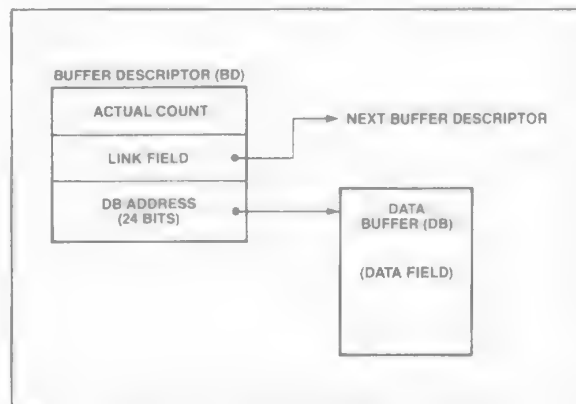

Figure 6. Transmit Data Buffer
The 82586 has a 22-bit memory address range in minimum mode and 24-bit memory address range in maximum mode. All memory structures, the System Control Block, commands in the Command Block List, Receive Descriptor List, and all buffer descriptors (see Figure 6), must reside within one 64K-byte memory segment. The Data Buffers can be located anywhere in the memory space.
One such command is the Transmit command. A single Transmit command contains, as part of the command-specific parameters, the destination address and type field for the transmitted frame along with a pointer to a buffer area in memory containing the data portion of the frame. The data field is contained in a memory data structure consisting of a Buffer Descriptor (BD) and Data Buffer (or a linked list of buffer descriptors and buffers) as seen in Figure 6. The BD contains a Link Field which points to the next BD on the list and a 24-bit address pointing to the Data Buffer itself. The length of the Data Buffer is specified by the Actual Count field of the BD.